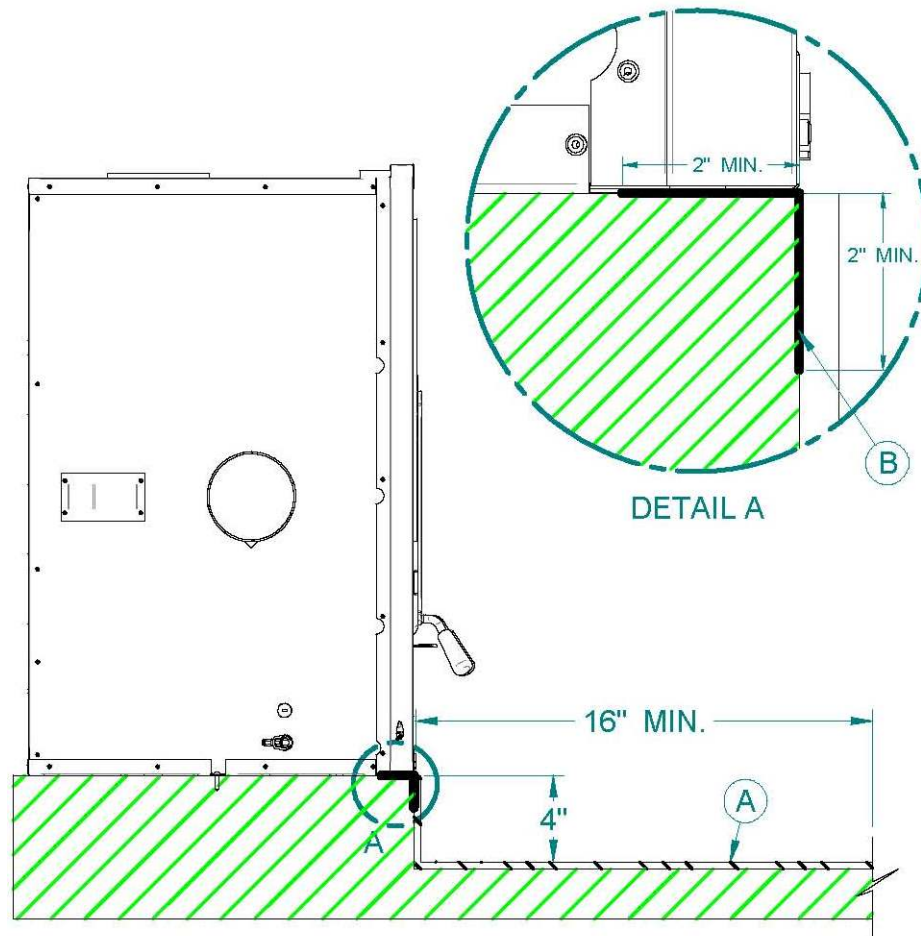

Figure 9
It is however possible to eliminate the R value by elevating the unit from 4" above the floor (see Figure 9), but the joint between the extension of the hearth and the fireplace must be protected by a non-combustible material. For example, a sheet metal (not included) as illustrated in Figure 9 (B). Please note that a combustible floor protection of at least 16" long must be installed in front of the fireplace as illustrated in Figure 9 (A).